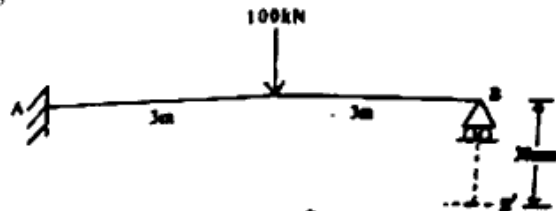

Figure 4 (चित्र 4)
5. Determine the prop reaction and the deflection at mid-span of a propped cantilever beam shown in figure 4. The prop sinks by 30 mm. Take $EI = 15,000 \text{ kNm}^2$. 14